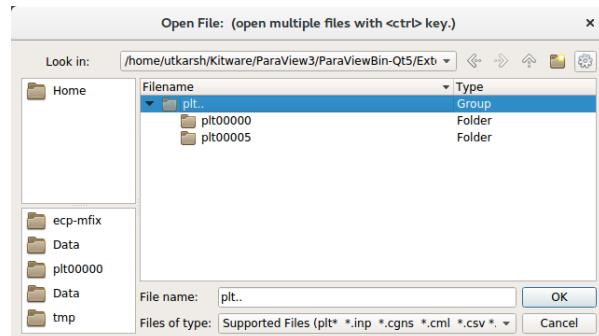

Fig. 17.2: : File dialog in ParaView showing a group of plotfile directories selected
2. Navigate to your run directory, and select the fluid or particle plotfile. Note that you can either open single/multiple plotfile(s) at once by selecting them one by one or select an ensemble of file, labelled as `plt..` and indicated as a Group in the “Type” column of the file explorer (see Fig. 17.2). In the later case, Paraview
1. Run ParaView v5.7, and select then “File” → “Open”. You will see a combined “plt..” group. Click on “+” to expand the group, if you want inspect the files in the group. You can select an individual plotfile directory or select a group of directories to read them a time series, as shown in Fig. 17.2, and click OK. ParaView will ask you about the file type – choose “AMReX/BoxLib Particles Reader”.